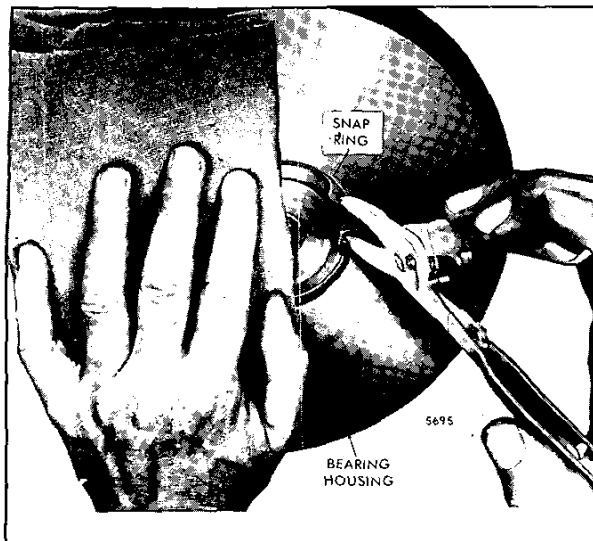

Fig. 6 - Removing External Snap Ring from Bearing Housing
7. Remove the external snap ring from the compressor end of the bearing housing (Fig. 6). Use medium size
**CAUTION:** To prevent eye or facial injury, use a rag to snub the ring should it slip from the pliers during compression (Fig. 6).